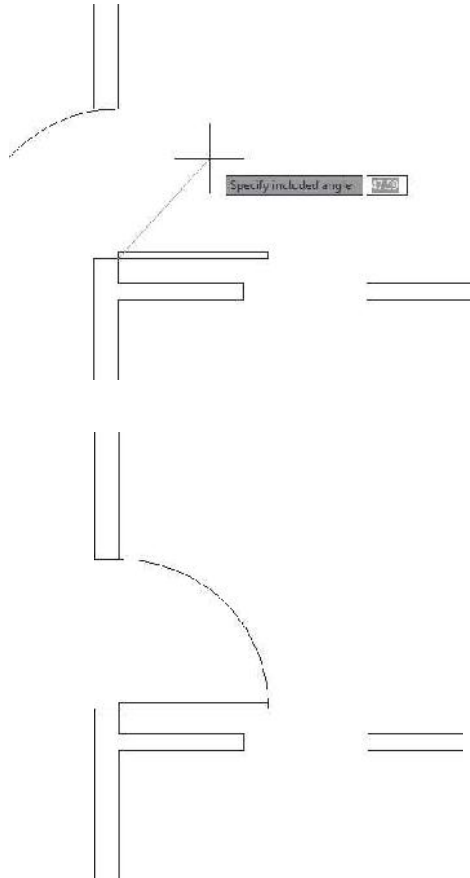

FIGURE 4.49: Drawing the arc: The ending point of the arc follows the cursor's movements (top), and the completed arc (bottom).
The arc is now visible, and its endpoint follows the cursor's movement, but the arc is extending in the wrong direction (see the top image in Figure 4.49). The prompt displays the Specify Included Angle option.
8. Type **-90.1**. The arc is completed, and the ARC command ends (see the bottom image in Figure 4.49).